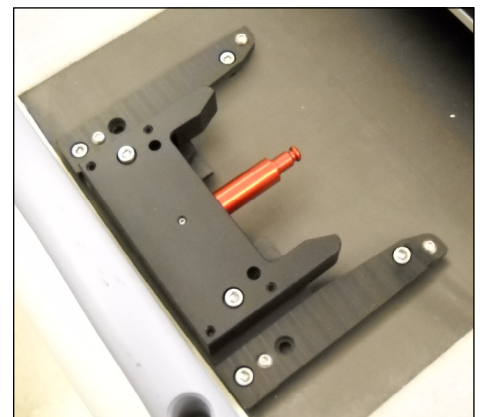

Fig. 3
4. Image to the right is the installed Foot End Mounting Assembly (Fig. 3).